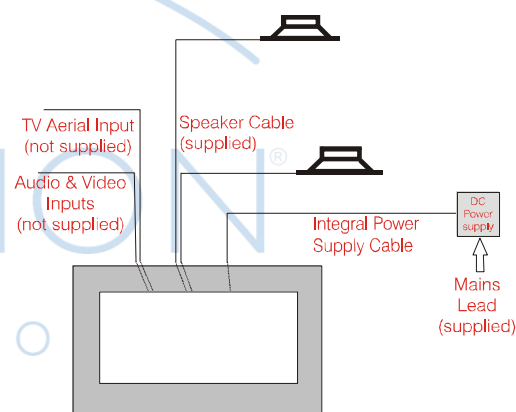

Fig 1. Cabling Schematic
3. Run the cables to their positions as shown in Fig. 1, ensuring that there is enough cable slack for connection at the rear of the AQUAVISION. Ensure that the cables are easily available and cannot fall back into the cavity.